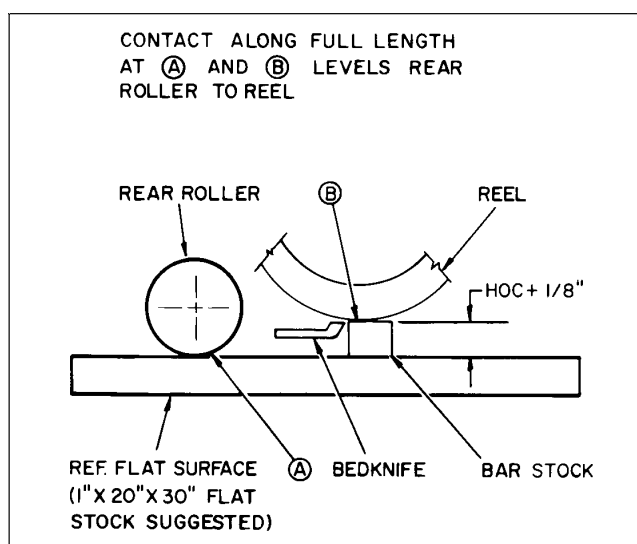

Figure 11
5. Insert piece of bar stock (Fig. 11) 25"-28" (70 cm) long with thickness equal to desired height-of-cut, under entire length of the reel, next to bedknife.